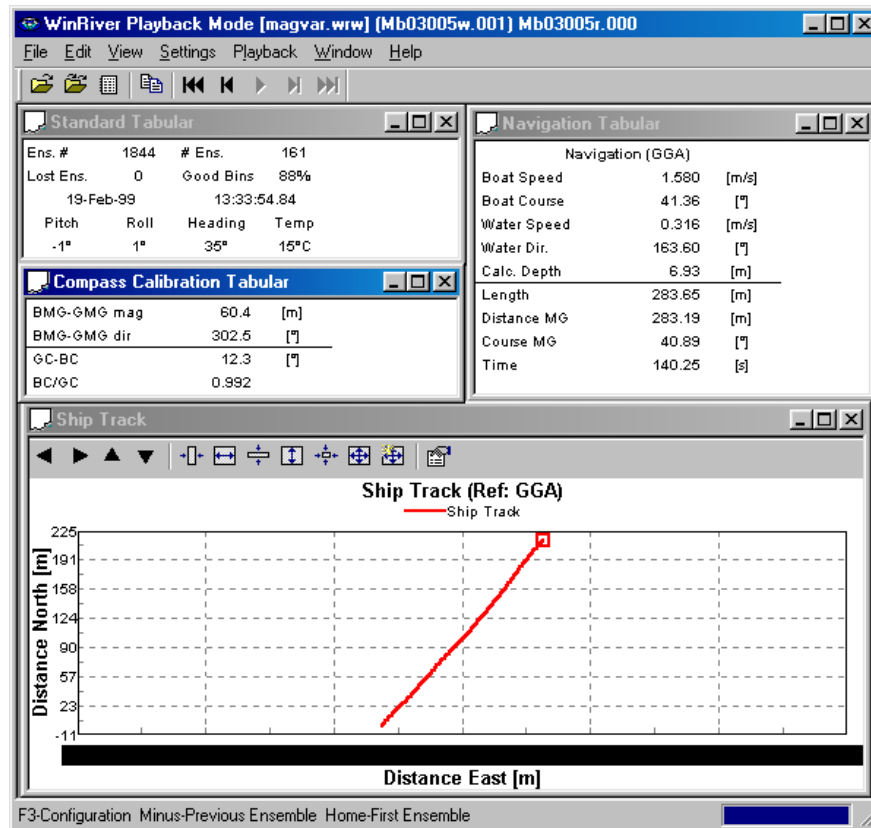

Figure 28. Determining Local Magnetic Variation
- h. Record the value of **GC-BC** from the **Compass Calibration Tabular** screen as shown in Figure 28, page 59. This is the compass error on this course (variation + deviation). Press **F5** to stop recording.